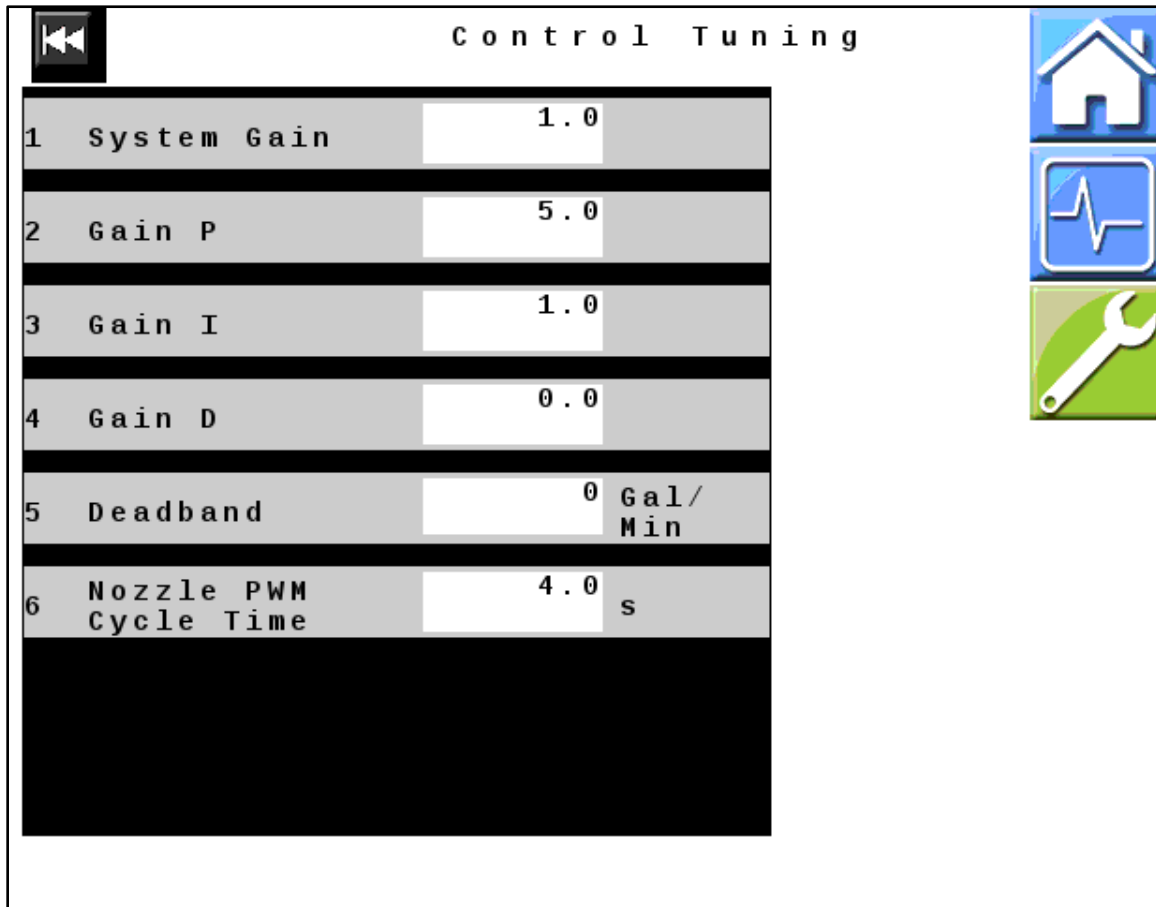

Figure 15 — Control Tuning
25. *Figure 15*: Verify that all values displayed on your unit match those shown here. Change values if necessary.